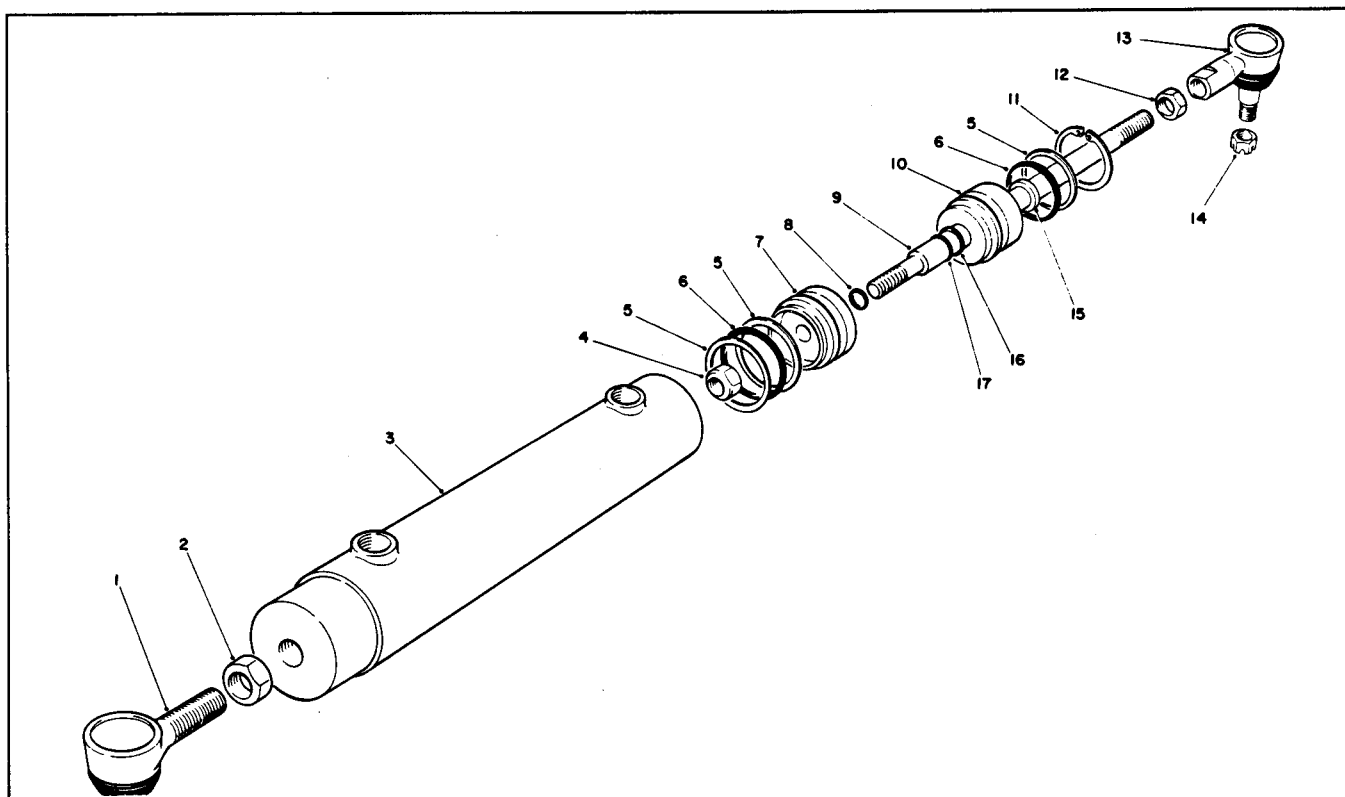

Figure 39
4. Remove the retaining ring (Fig. 39).